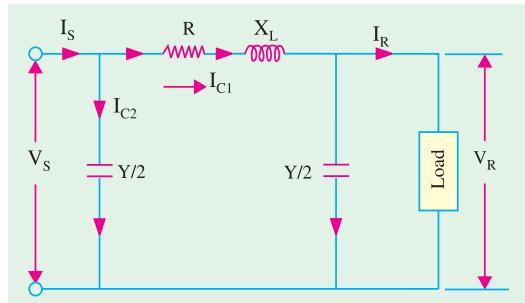

Fig. 41.41
**Solution.** (a) Nominal  $\pi$ -method will be used to solve this problem. Capacitive susceptance (or admittance) at each end  $= Y/2 = 3 \times 10^{-4}/2 = 1.5 \times 10^{-4}$  siemens as shown in Fig. 41.41.
(c) As seen from Fig. 41.41 under no-load condition, current in the conductor is